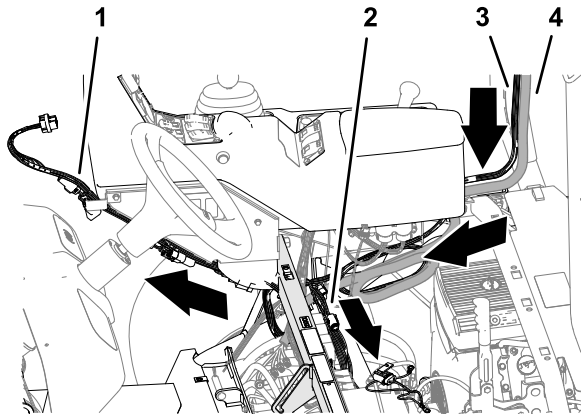

Figure 164
- 3. Route the 227 cm (89-1/2 inches) branch of the navigation-data and electrical harness along the bottom of the control console of the machine (Figure 164).
- 4. Route the 258 cm (101-1/2 inch) branch of the navigation-data and electrical harness across the shock-support tube and toward the battery (Figure 164).